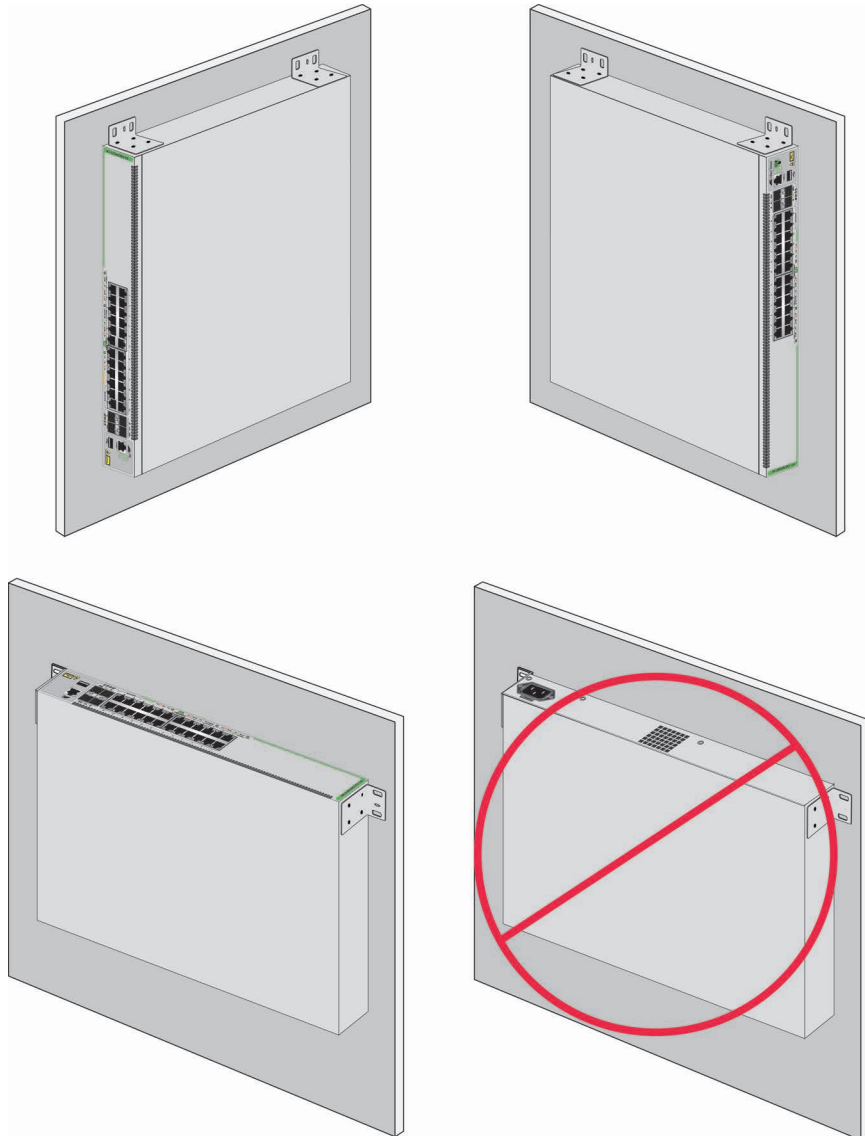

Figure 42. Positioning the AT-GS980MX/28 and AT-GS980MX/28PSm Switches on a Wall
The AT-GS980MX/28 and AT-GS980MX/28PSm Switches can be installed on a wall with the front panel facing up, left or right, as shown in Figure 42. Do not install the switches with the front panel facing down.
- Position it so that the front panel is facing left or right. Refer to Figure 42. Do not install it with the front panel facing up or down.